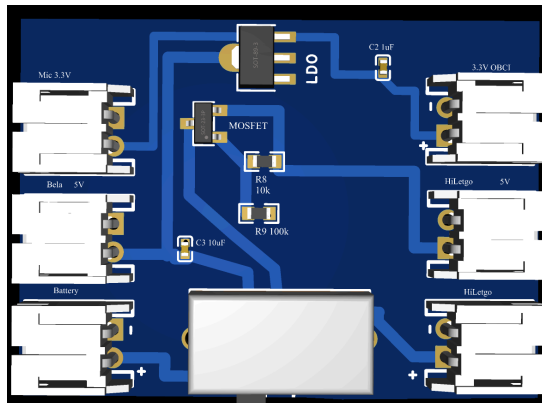

Fig.1: 3D view of BMS PCB
Look at Fig.1 (BMS PCB layout) and identify the labeled areas: Mic 3.3V, Bela 5V, Battery, HiLetgo, LDO, MOSFET, Switch, 3.3V OBCI, HiLetgo 5V.
1. Verify that the preassembled BMS PCB looks exactly as in Fig.1.